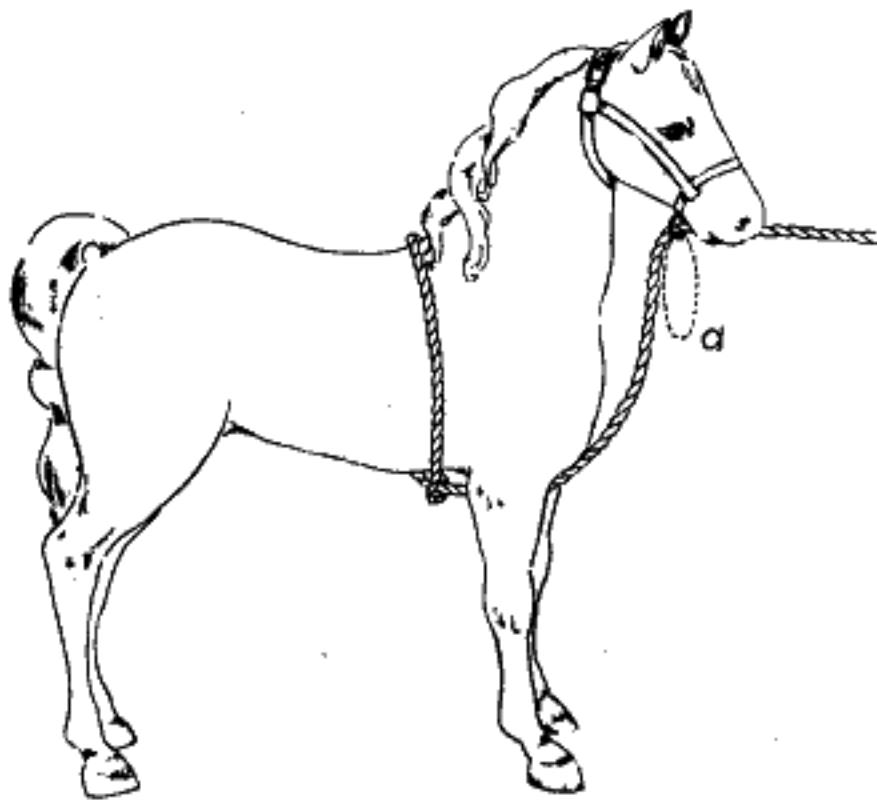

FIG. 358.—A leading or tying tackle.
**416. The leading or tying tackle**, shown in Fig. 358, is effective in breaking a colt to lead. The loop around the body should be made so that it will loosen promptly when the tie rope is slackened.
run through a loop or strap in the halter ring *a* (Fig. 358) and not through the halter ring itself.